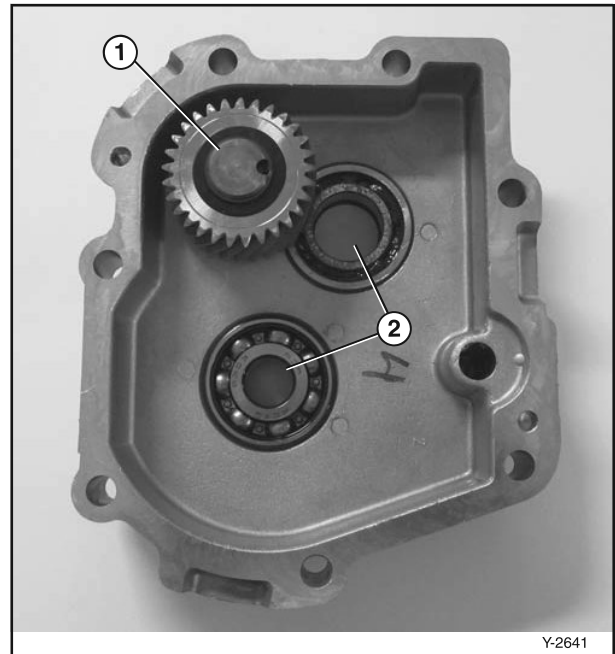

Figure 6-45
13. Inspect the idler gear (**Figure 6-45, (1)**) and the bearings (**Figure 6-45, (2)**). Make sure they move smoothly.